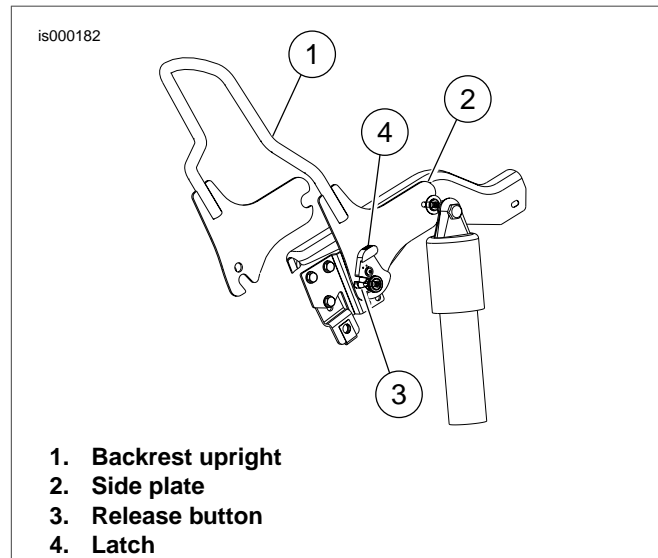
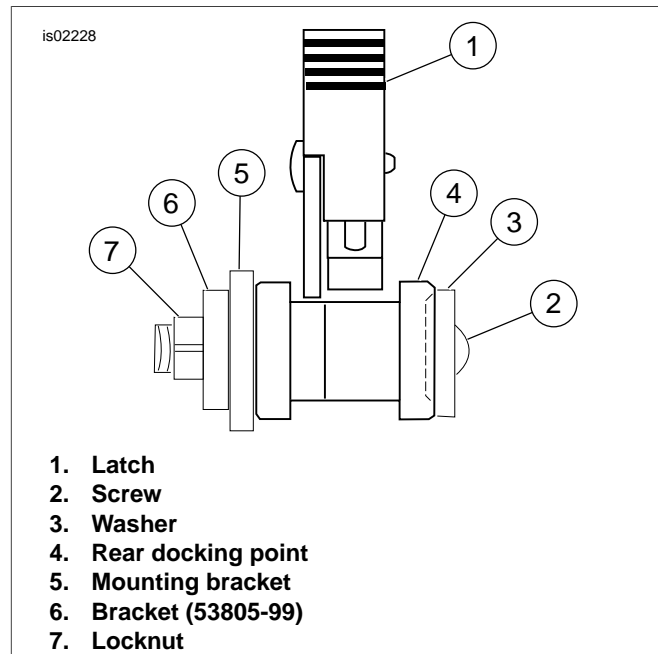

Figure 5. Installed Backrest and Hardware
Figure 6. Rear Docking Point Latch Alignment
3. See Figure 5 and Figure 6. Position the latches over the rear docking points. Check to be sure the latches fit into the neck of the rear docking points as shown. This may require some gentle squeezing or spreading of the side plates.
5. See Figure 5. To remove side plates, press the release button on each side and pull the latch levers back. Carefully lift the rear of the side plates up and pull the side plates out of the front docking points.